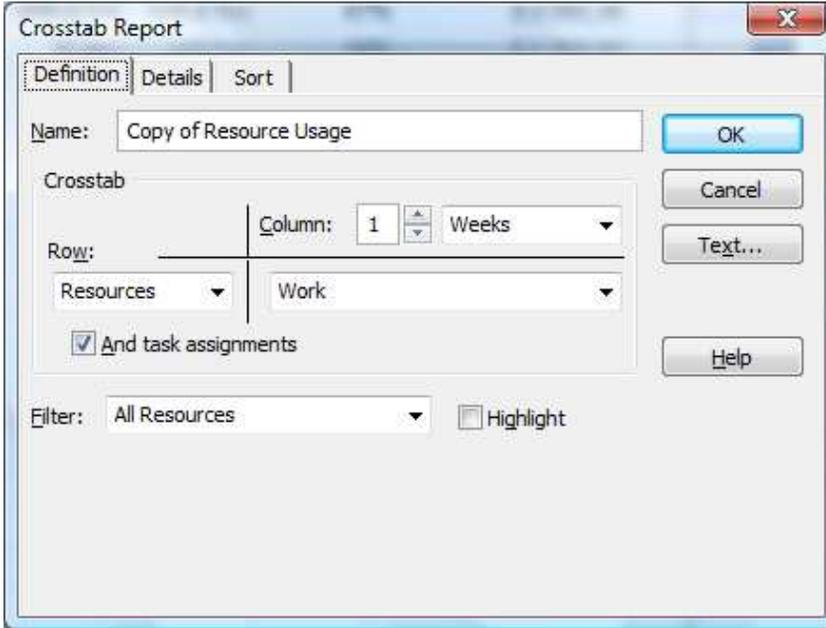

Fig. 3. Options for customizing
5. Depending on the type of report you're customizing, the corresponding dialog box opens (see Fig. 3).